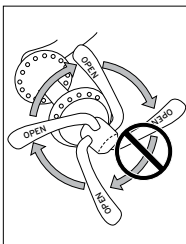

FIGURE 39:
- Do not turn the lever like a wing-nut to tighten it (Figure 39); this will not make sufficient force to hold the wheel.